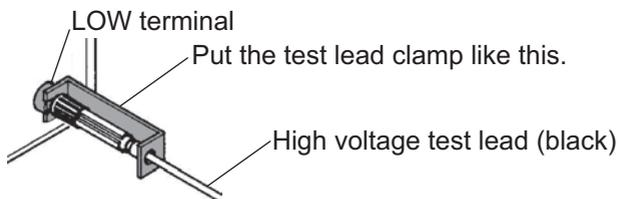

Fig.3-2 Low terminal connection
1. Turn on (I) the POWER switch.
2. Connect the supplied high voltage test lead (black) to the LOW terminal of the tester as shown in Fig.3-2.